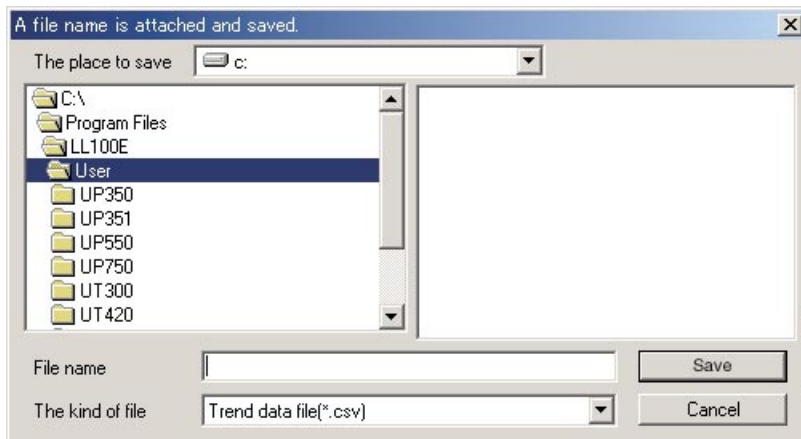

Figure 6.2.3 Save Trend Data Dialog Box
- (3) Click **OK**.
- (4) From the toolbar, click the  shortcut, or from the menu bar, choose **File**, then **Save trend data**.
- (5) The Save Trend Data dialog box (Figure 6.2.3) appears. In the **File name** text box, enter a file name then click **Save**.